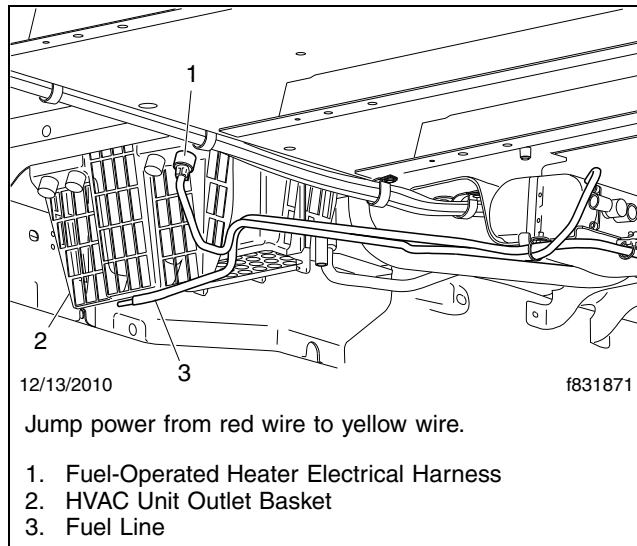

Fig. 26, Testing the Fuel-Operated Heater Function
2. Jump the power from the red wire to the yellow wire (so that both supply 12V to the heater). See **Fig. 26**.